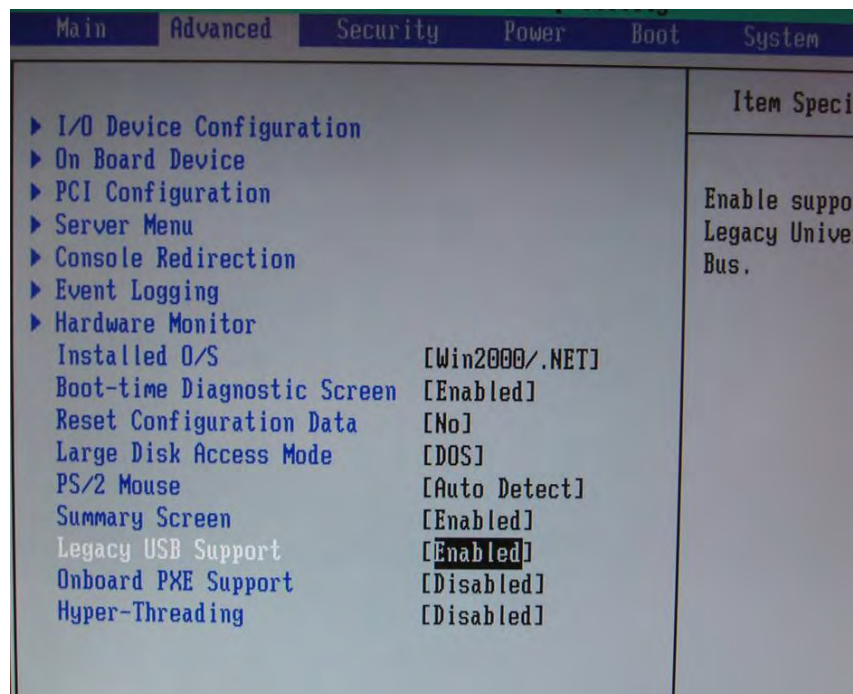

Figure 1-97. BIOS Advanced Screen
5. Verify that 'Legacy USB Support' is enabled. If necessary, select the entry, using the arrow down key and change from Disabled to **Enabled** pressing + (Figure 1-97).